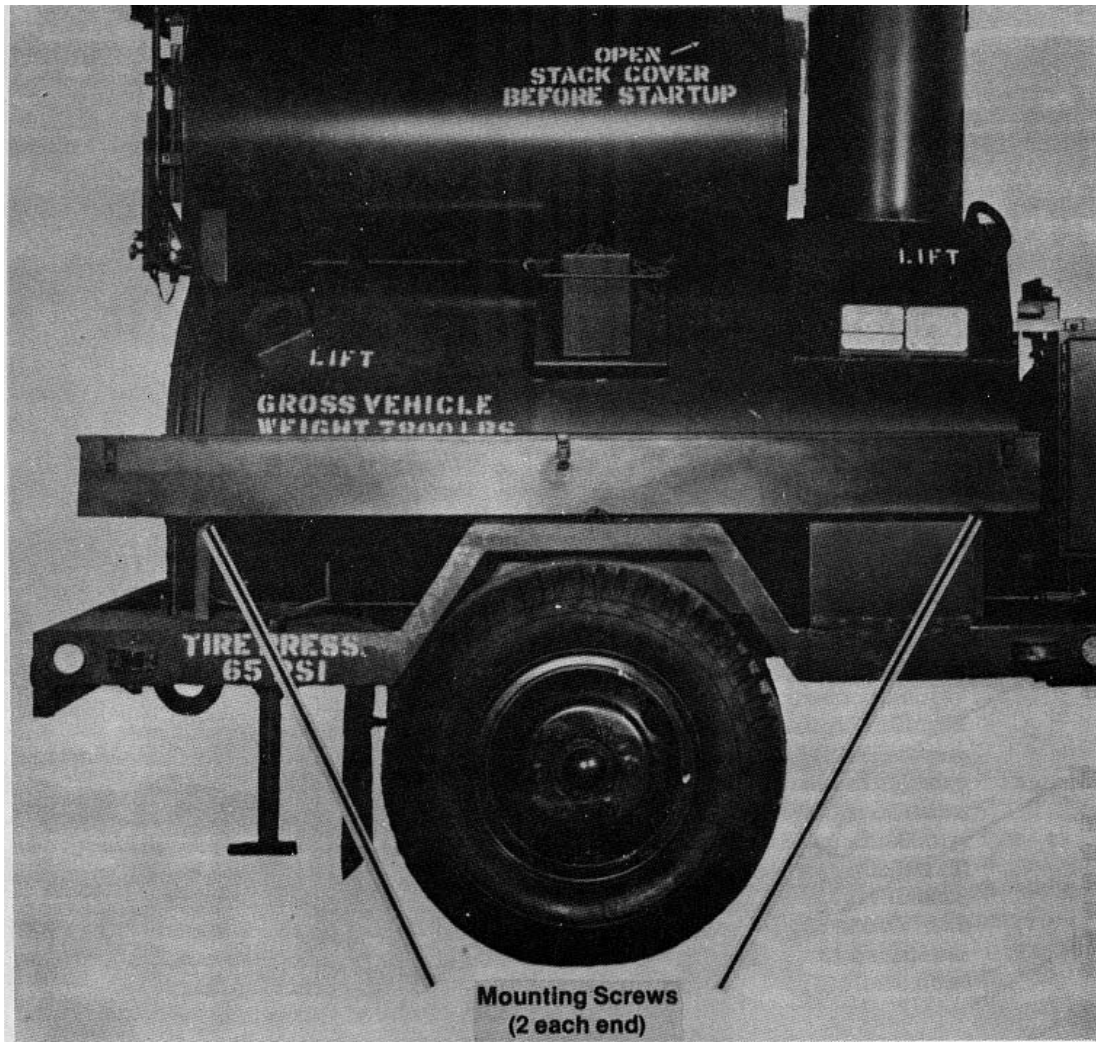

Figure 62. TOOL BOX MOUNTING HARDWARE
- 2 Refer to Fig. 62 and remove the tool box.
c. Installation. Refer to Fig 62 and Install tool box